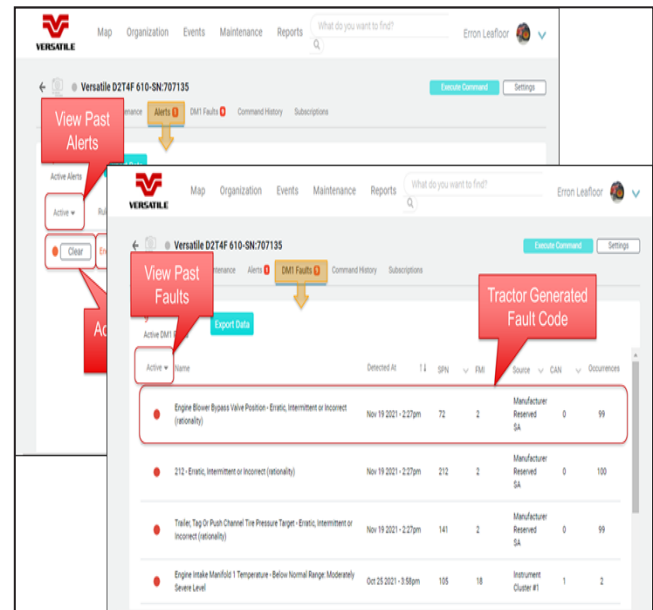

Figure 5-34 Tractor Dashboard - Faults/Alerts
- Using the tabs as the top of the tractor Dashboard Screen (Figure 5-34).